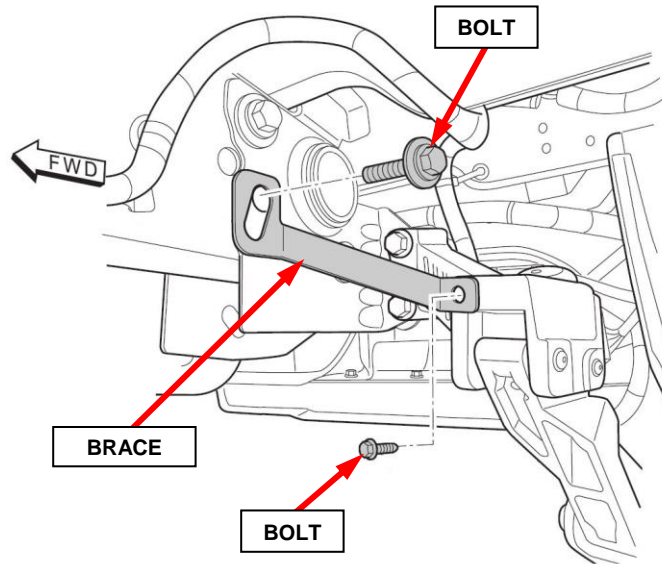

Figure 1 – Bed Step Brace
2. Remove the two bolts securing the bed step brace and **SAVE** the larger bolt (Figure 1).